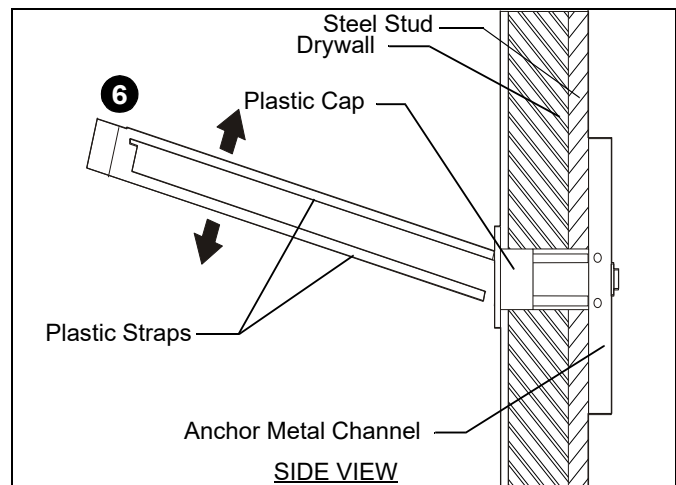

Figure 13
6. Snap off plastic straps on anchor at wall by pushing side to side, snapping off straps level with flange of plastic cap. (See Figure 13)